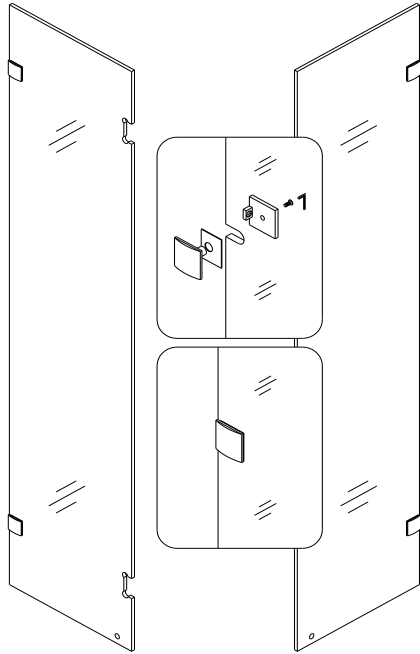

Fig. 1
Note: Parts of the **Wall Brackets** with the mounting holes should face inward so that when glass panels are in place, mounting bolts are only visible from the inside. Mounting hole for the Base bracket should be at the bottom. See fig. 1 for details.
7. Repeat Steps 1, 2, 3, 4, 5 and 6 to install the **Stationary glass 2 (03)** and attach the second support bar to the glass. See fig. 1, 2, 3, 4 and 5 for details.